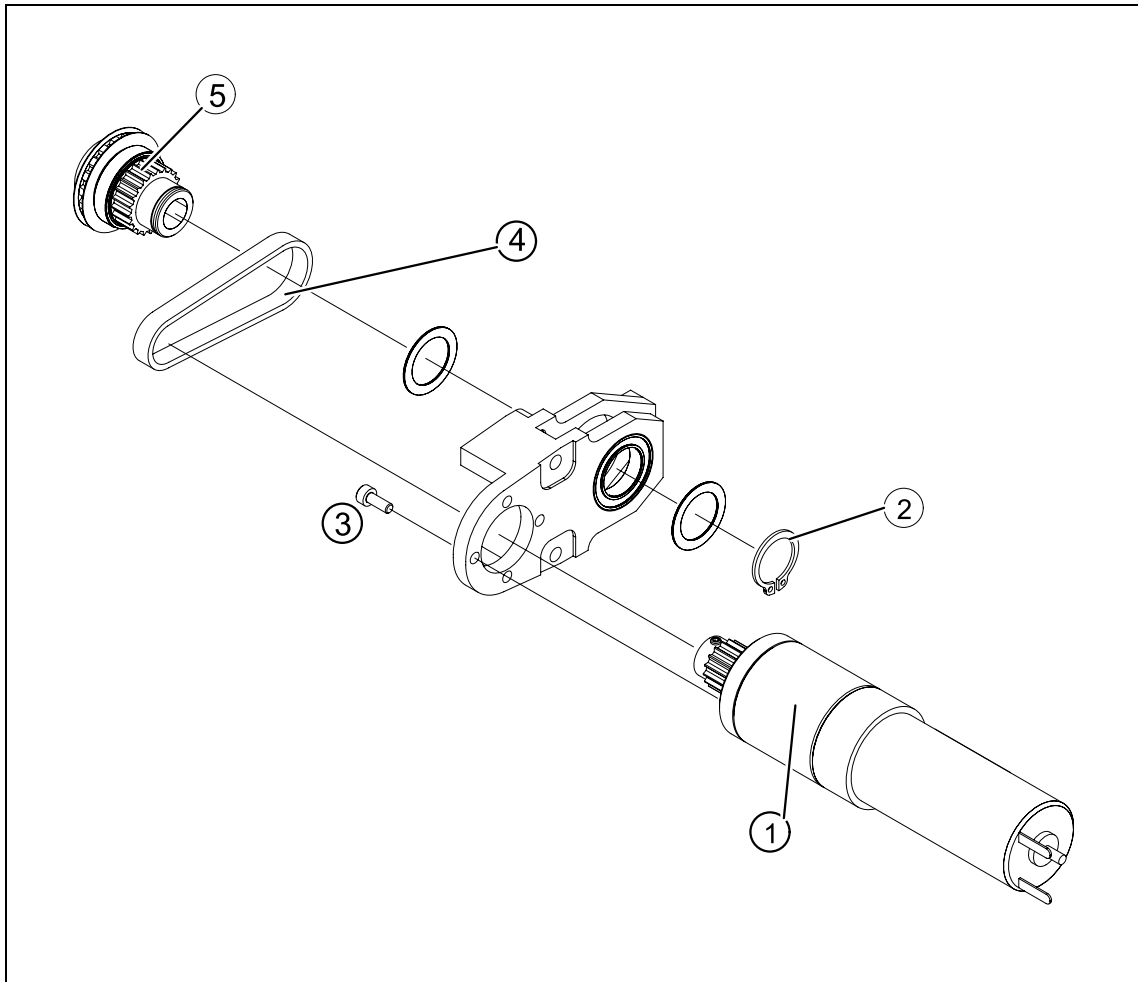

Fig. 6.9.5 Replacing the toothed belt of the relevant PCB conveyor drive
- Remove the circlip and shim, see Fig. 6.9.5.